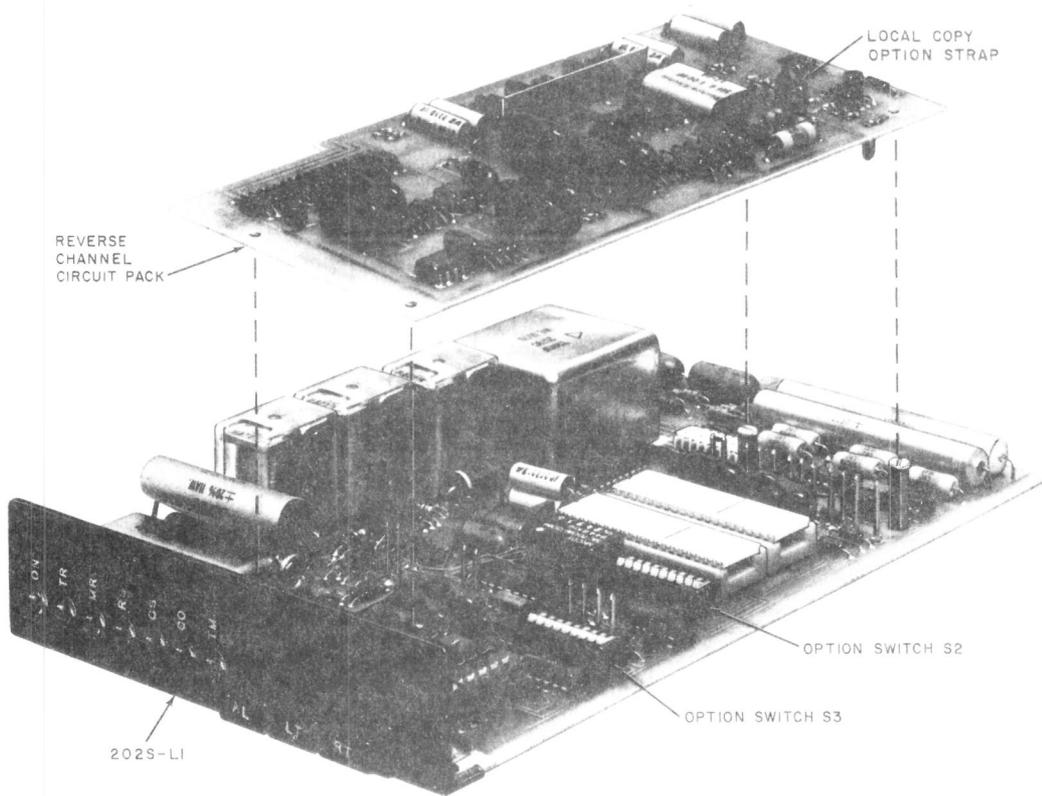

Fig. 2—Data Set 202S-L1/3
**2.02** The basic data set 202S (coded 202S-L1 or L1A) is a printed wiring board measuring 1.5 inches high, 5.55 inches wide, and 10.4 inches long, and weighing 1.5 pounds. An optional reverse-channel circuit pack may be attached to the basic data set, adding approximately .25 pounds of additional weight. See Fig. 2. The data set with reverse channel is coded 202S-L1/3, L1/3A, or L1A/3A. Refer to Section 592-028-100 for a complete description of the data set.